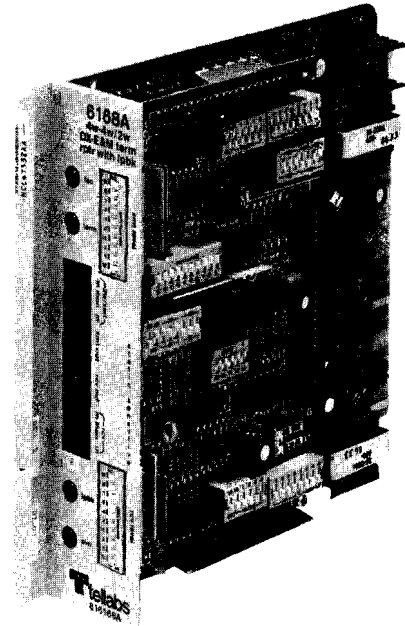

figure 1. 6168A 4Wire-to-4Wire or 4Wire-to-2Wire
1.01 The 6168A 4Wire-to-4Wire or 4Wire-to-2Wire DX-to-E&M Terminal Repeater module with Loopback (figure 1) provides both active transmission interface and bidirectional signaling conversion between a 4wire facility that uses duplex (DX) signaling, which is extended-range E&M signaling via DX signaling leads, and a 4wire or 2wire trunk or line that uses conventional E&M signaling. Unlike ordinary DX modules, the 6168A contains circuitry that eliminates the need for a conventional resistive and capacitive DX balance network. In addition, the 6168A contains transmission and signaling loopback circuitry to facilitate local or remote testing of the module and the facility. A switch option on the 6168A excludes its DX-to-E&M signaling-conversion circuitry from the circuit, thereby allowing the 6168A to function as a data station termination (DST) module rather than as a signaling unit. As a member of Tellabs' 262 Network Channel Terminating Equipment/Data Station Termination (NCTE/DST) System of modules and enclosures, the 6168A fulfills Registered Facility Interface Codes TC11E, TC11M, TC12E, TC12M, TL11E, TL11M, TL12E, TL12M when optioned for 4wire-to-2wire operation and Registered Facility Interface Codes TC31E, TC31M, TC32E, TC32M, TL31E, TL31M, TL32E, and TL32M when optioned for 4wire-to-4wire operation in applications where the serving telephone company uses facility-side DX signaling.